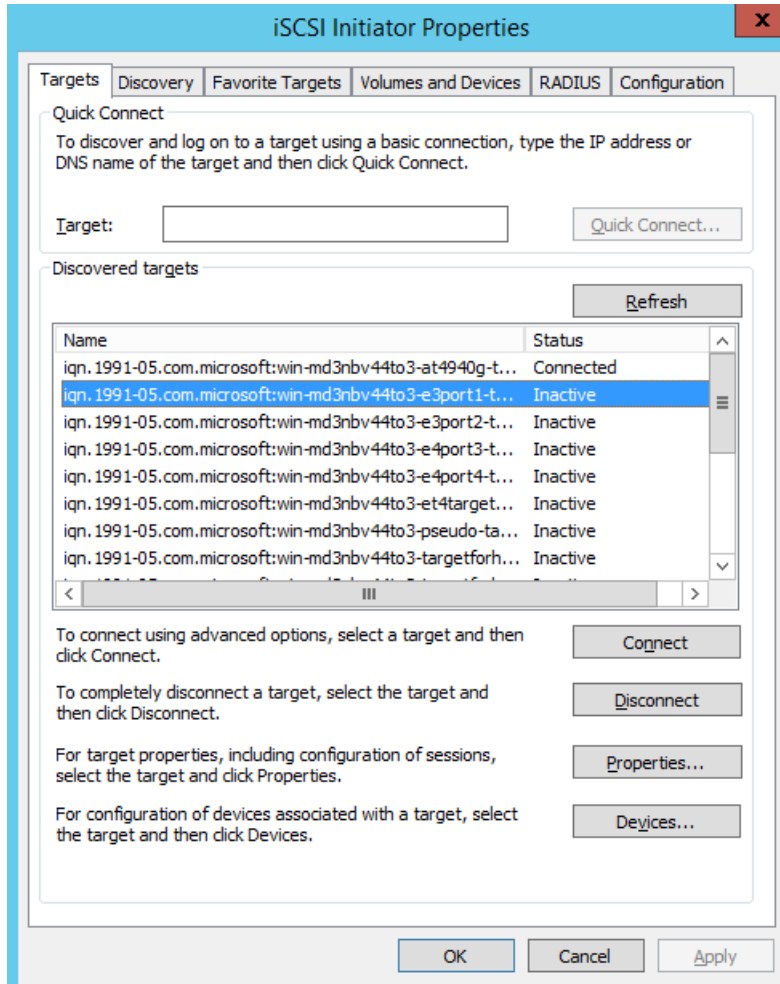

Figure 10-6. Connecting to the iSCSI Target
8. Click the **Targets** tab, and then on the Targets page (Figure 10-6), click **Connect**.